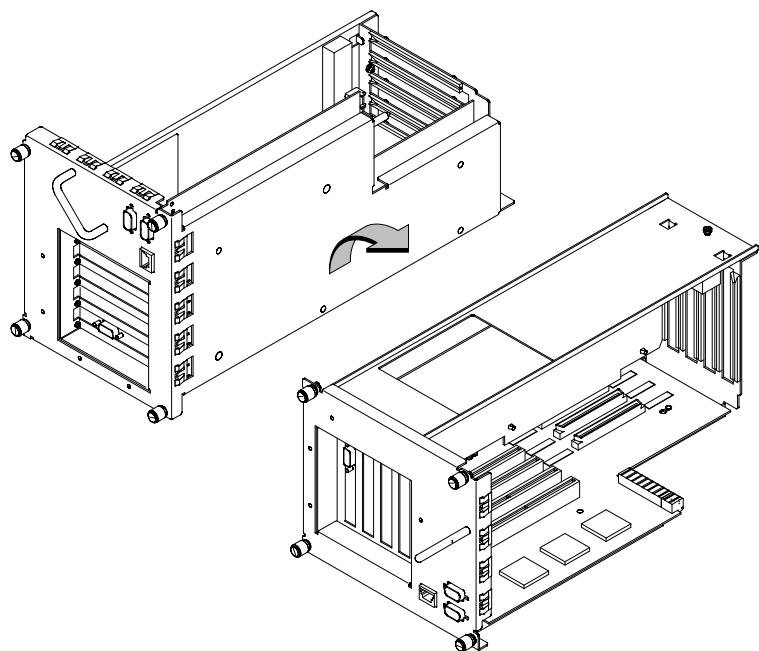

Figure A-33. Rotating the EISA Assembly for Installation
- 2.** Rotate the unit 90 degrees clockwise and place on a flat surface, as shown in Figure A-33.